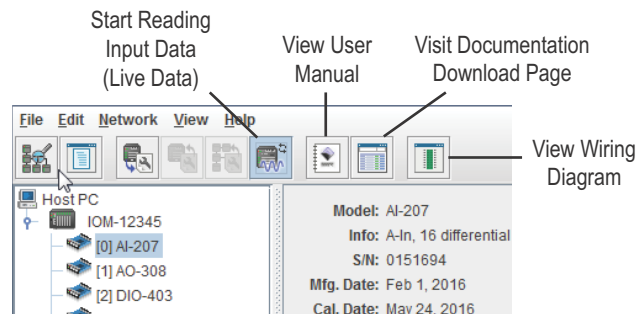

Figure 5-14. PowerDNA Explorer Toolbar Buttons (Board Level)
- **Start Reading Input Data, View User Manual, Visit Documentation Download Page, and View Wiring Diagram** (shown in **Figure 5-14**)